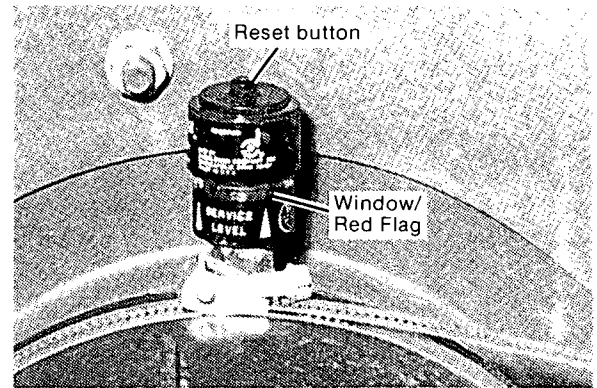

Figure 1 Service Indicator
8. If equipped, check the service indicator daily (Figure 1) (dry-type air cleaners). The service indicator signals when to change the air cleaner element. The "red flag" in the window gradually rises to the top as the air cleaner loads with dirt. **DO NOT** service the element until the flag reaches the top and locks in place. When "locked", the flag will remain at the top when the engine is stopped. After changing the element, push the button to reset the indicator.